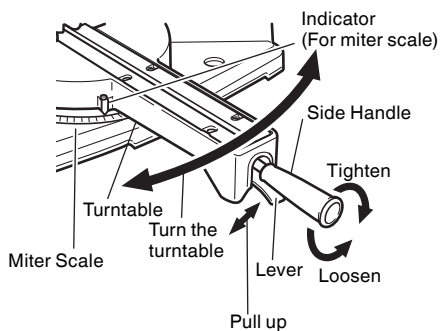
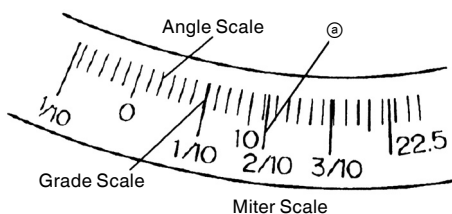

Fig. 30
Fig. 31
- (1) Loosen the side handle and pull up the lever for angle stoppers. Then, adjust the turntable until the indicator aligns with desired setting on the miter scale (Fig. 30).
- (2) Re-tighten the side handle to secure the turntable in the desired position.
- (3) The miter scale (Fig. 31) indicates both the cutting angle on the angle scale and the gradient on the grade scale.
- (4) The gradient, which is the ratio of the height to the base of the triangular section to be removed, may be used for setting the miter scale instead of the cutting angle, if desired (see Fig. 31).
- (5) Therefore, to cut a workpiece at a grade of 2/10, set the indicator to position ③ as indicated in Fig. 31.